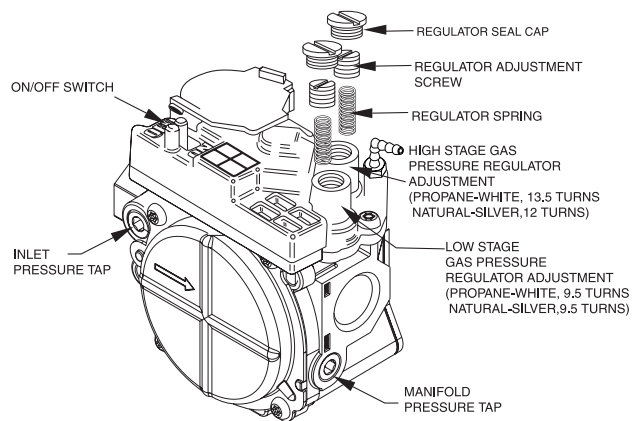

Fig. 26 - Series G Gas Valve & Series J
NOTE: For the 2-stage furnaces with a Series G and Series J gas valve (see Fig. 26), they **MUST have both regulator springs replaced and the gas valve MUST be pre-adjusted.**
For Fig. 26
2. Remove both regulator seal caps. (See Fig. 26.)
2. Remove 1/8-in. (3 mm) pipe plug from inlet pressure tap on gas valve. (See Fig. 26 or 27.) DO NOT DISCARD 1/8-in. (3 mm) PLUG.
12. Apply pipe dope sparingly to end of inlet gas pipe plug and install in unused end of 1/8-in. (3 mm) tee. Use a small back-up wrench on tee when tightening gas inlet pipe plug. (See Fig. 26 or 27.)
2. Remove 1/8-in. (3 mm) pipe plug from manifold pressure tap on downstream side of gas valve. (Fig. 26 or 27.)